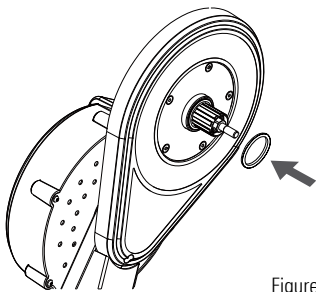

Figure 5
2. Install the spacer or spacers required behind the cassette onto the freehub body. Load the cassette sprockets onto the freehub body. See figures 5, 6. (Refer to the manufacturer's instructions if necessary)